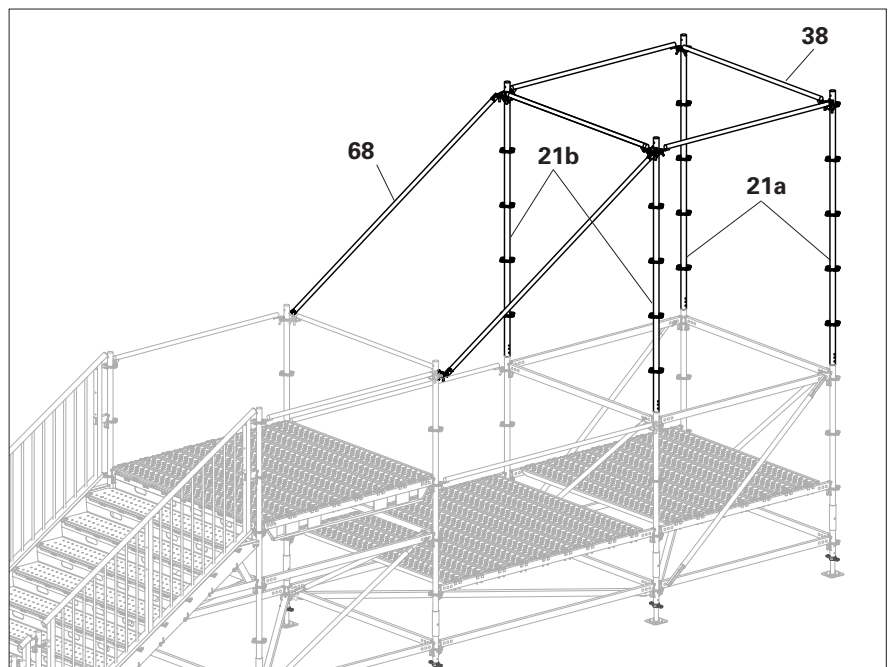

Fig. C1.11
5. Connect 2 x Node Brace UBK-2 250/150 (**68**) to their respective standards at 2.5m high, then insert the two Top Standard UVH-2 250 (**21b**) into base standards. (Fig. C1.11)